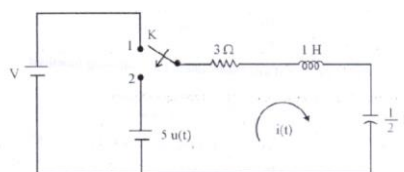

Fig.6.56
29. In the circuit shown in Fig.6.56, the switch is thrown from position 1 to 2 at  $t = 0$ . Just before the switch is thrown, the initial conditions are  $i(O^-) = 2$ A and  $v_c(O^-) = 2$ V. Find  $i(t)$  after the switching action, using Laplace transform method.